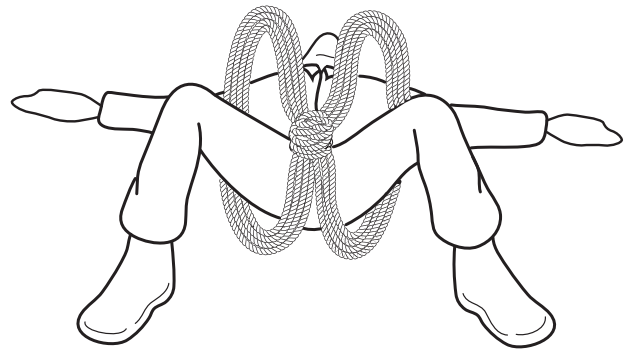

Figure 9-2. Rope Coil Carry Rope Placement.
- The bearer separates the loops of the mountain coil into two approximately equal groups and then slips one-half of the coil over the casualty's left leg and one-half over the right leg so that the wraps holding the coil are in the casualty's crotch and the loops extend upward toward the armpits. See figure 9-2.